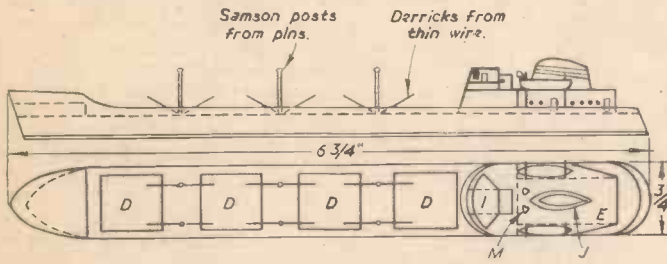
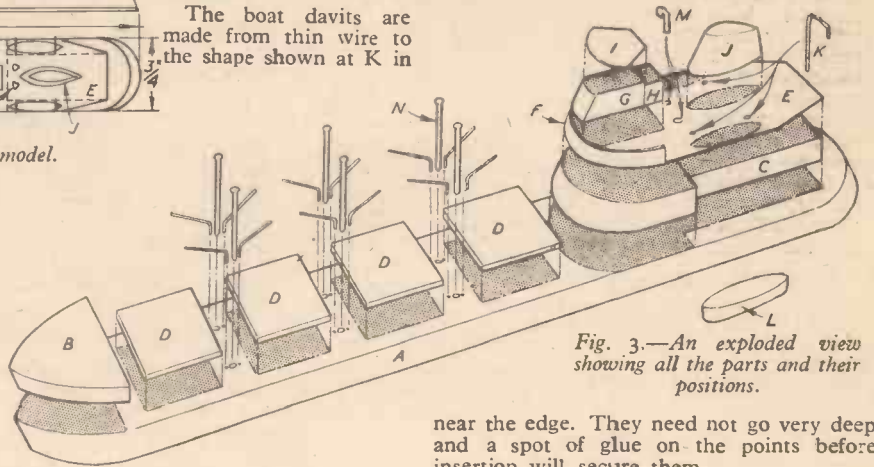
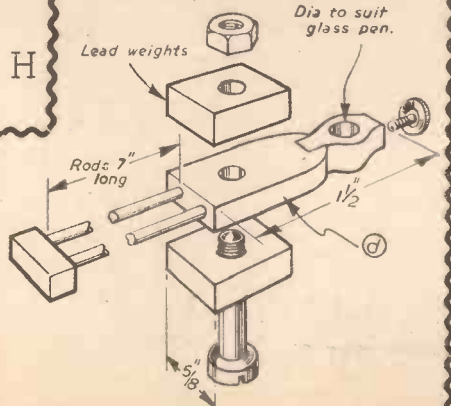

Fig. 2.—Side elevation and plan of the model.
Fig. 3.—An exploded view showing all the parts and their positions.
Fig. 4.—Details of the weighted penholder.
In Fig. 4 details of the weighted penholder fitment are given, the centre brass part "d" being drilled to take a bolt for clamping the two lead blocks in position. These blocks are provided to ensure a suitable pressure being maintained on the pen or pencil point on the paper. The penholder is shaped from a small piece of brass and drilled to take the glass pen or pencil, which is clamped into position by means of a brass milled-head screw. One end of the penholder is filed to fit into a slot in the block "d" and is soldered in place. This is also drilled to take the ends of the double arm. The part D is made from hardwood and is slotted, as shown in Fig. 3, to take a
Cut out the two sides of the vessel from thick cartridge paper to the shape shown in Fig. 4 and when all the parts are made they can be glued together; the positions of all the parts will be seen from reference to Figs. 2 and 3.
Fig. 1 shows the model which it is proposed to construct and the first step is to make the hull. For this a piece of strip wood $6 \frac{11}{16}$ in. \times $\frac{1}{2}$ in. \times $\frac{1}{4}$ in. is required, and this is shaped as shown on the plan in Fig. 2 and marked A in Fig. 3. The fore-castle deck is cut from a piece of $\frac{1}{4}$ in.-thick wood and measures $\frac{1}{2}$ in. \times $\frac{1}{2}$ in. and is shaped as shown at B in Fig. 3.
The saloon is made from two pieces, one piece measuring $1 \frac{1}{16}$ in. \times $\frac{1}{2}$ in. \times $\frac{1}{4}$ in. and the other $\frac{1}{2}$ in. \times $\frac{1}{2}$ in. The two pieces are glued together after being shaped to form part C in Fig. 3.
The hatches (D) which are shown plainly in both Figs. 2 and 3 can either be made from thin card or from $1/16$ in. strip. The boat deck, E, is made of thick cartridge paper
Fig. 3 and the lifeboats (L) are cut from pieces of scrap wood $\frac{1}{2}$ in. long and shaped as shown. The ventilators are made from pins, with the heads bent over to form the shape shown at M. Some larger pins with the heads broken off can be used for the samson posts or fine nails, perhaps, if they look